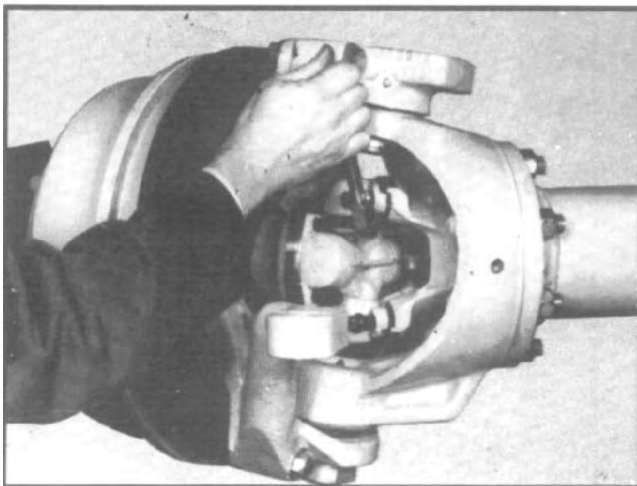
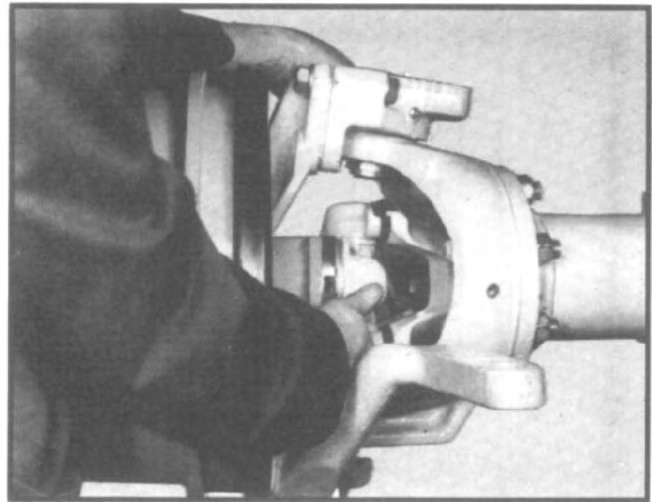

Fig. 20
Fig. 27
3. Remove four capscrews (See fig. 20) that retain the universal joint cross and bearing to the outer drive yoke.
3. Unbolt the universal joint cross and bearing from the outer drive yoke. (See fig. 20.)
Remove eight capscrews that attach the cross and bearing assembly to drive yokes. (See fig. 20, Page 11.) Remove the cross and bearing. (See fig. 27). Remove the capscrews from the center of the drive yokes and remove the drive yokes. The outer drive yoke may require some prying before it comes off the outer axle shaft.
Install the universal joint cross and bearing assembly with two bolts in each of the bearing caps. (See figs. 27 and 20, Page 13 & 11.) Rotate the wheel hub to rotate the universal joint while the end is turned against the steering stop and check for positive clearance.